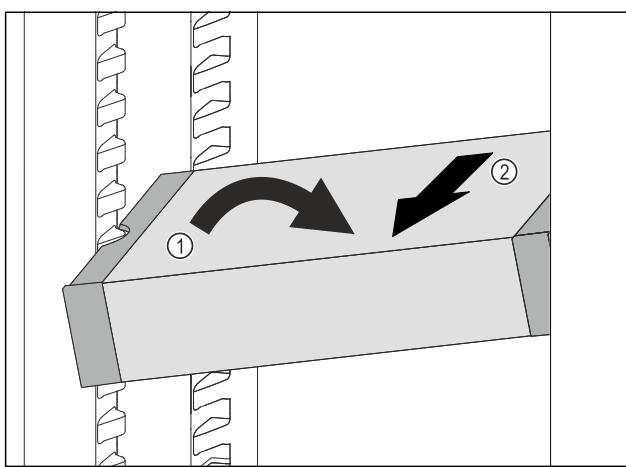

Fig. 136
- ▶ Set VarioSafe in refrigerator compartment at an angle. Fig. 136 (1)
- ▶ Take VarioSafe out to the front. Fig. 136 (2)